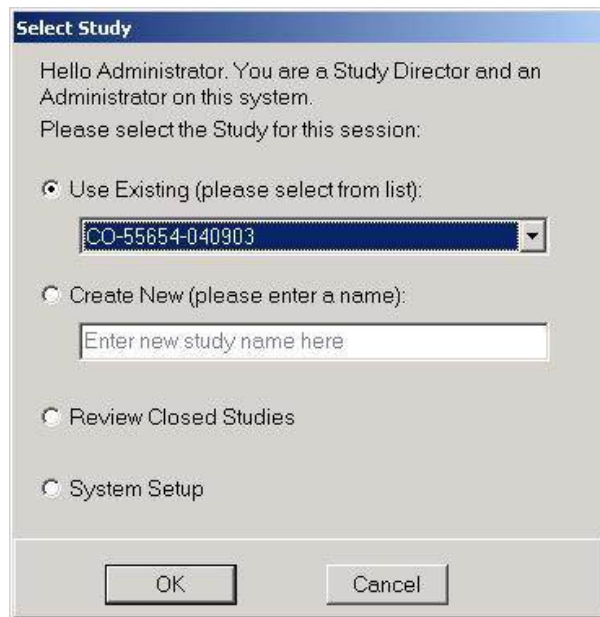

Figure 105. Existing Studies are selected from a list at start up.
- An Identifier or Name, which once created, appears in a list in the KGLP Startup dialog as shown in Figure 105.
- The information for KGLP to create one or more Datasets, consists of a name (ID), password, sample type, number of samples, number of replicate slides per sample and number of cells to be scored per slide.